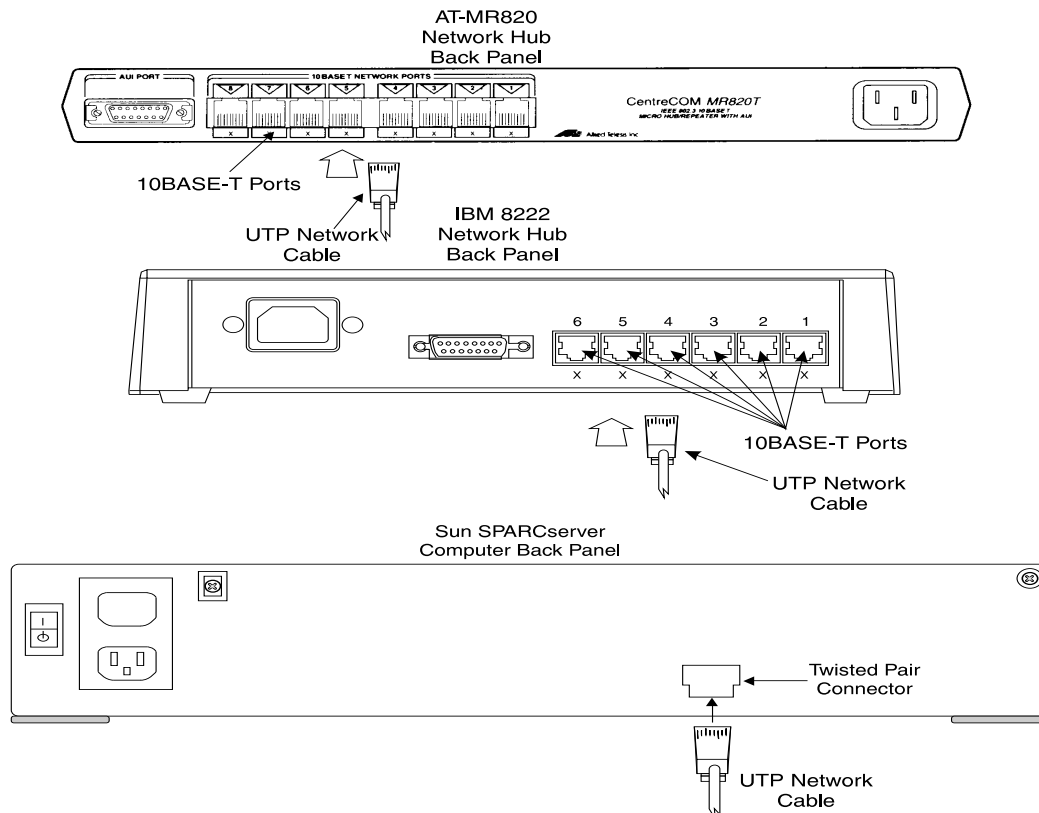

Figure D-47: Network Hub Units — Back Panel
To connect a Network Hub unit to the *Sun SPARCserver* computer, do the following (see Figure D-47):
4. Plug the other end of the UTP cable into Port 1 of the 10Base-T ports on the Network Hub unit (see Figure D-47).